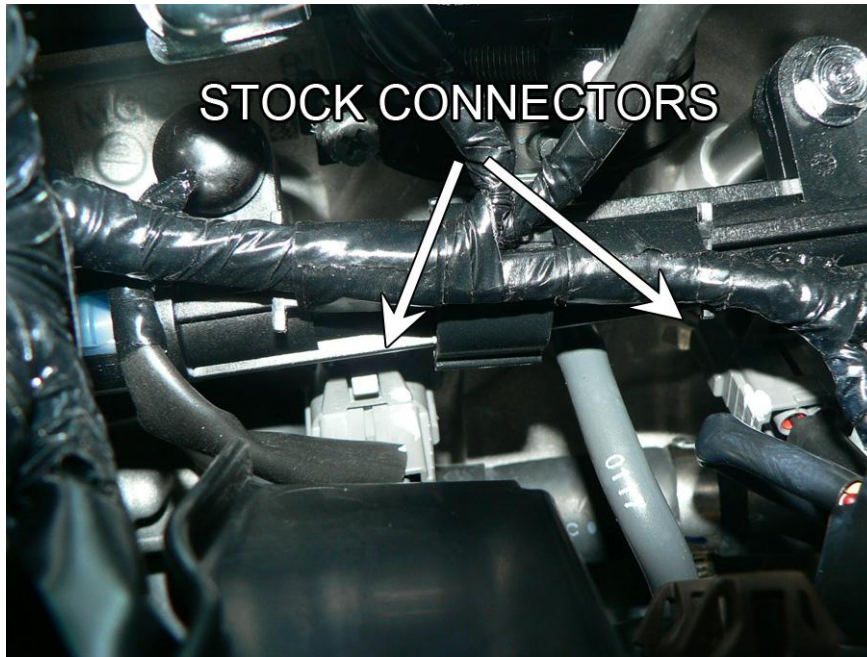

Fig.1
2. Locate and disconnect the 2 pin grey connectors of the injectors (**Fig.1**).